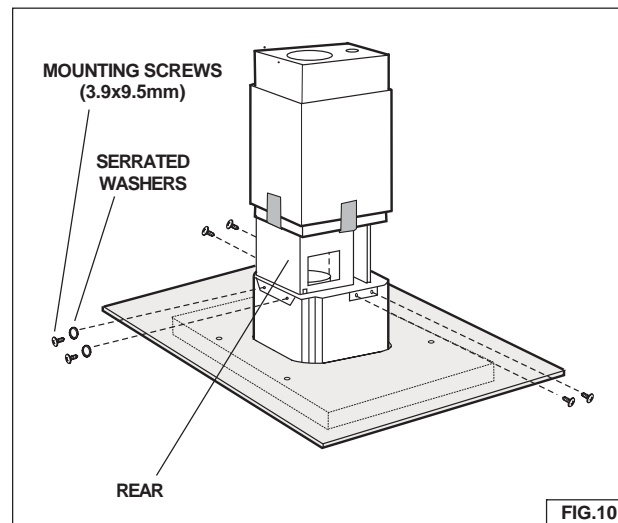

FIG.10
Fix the hood to the support frame with (6) 3.9x9.5mm mounting screws and (2) serrated washers (Fig. 10).